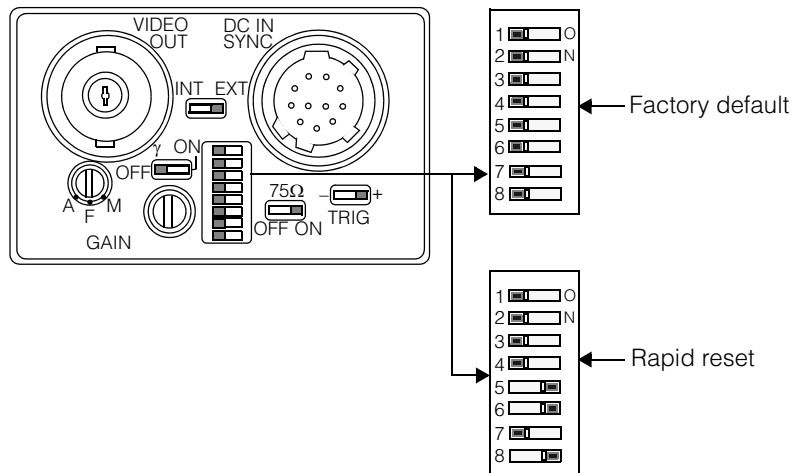

Figure 9. Sony XC-ST50 camera back panel
Figure 9 shows the back panel of the Sony XC-ST50 camera with the switches in their factory default and rapid reset modes.
1. Configure the 8-position DIP switch as shown in Figure 9.